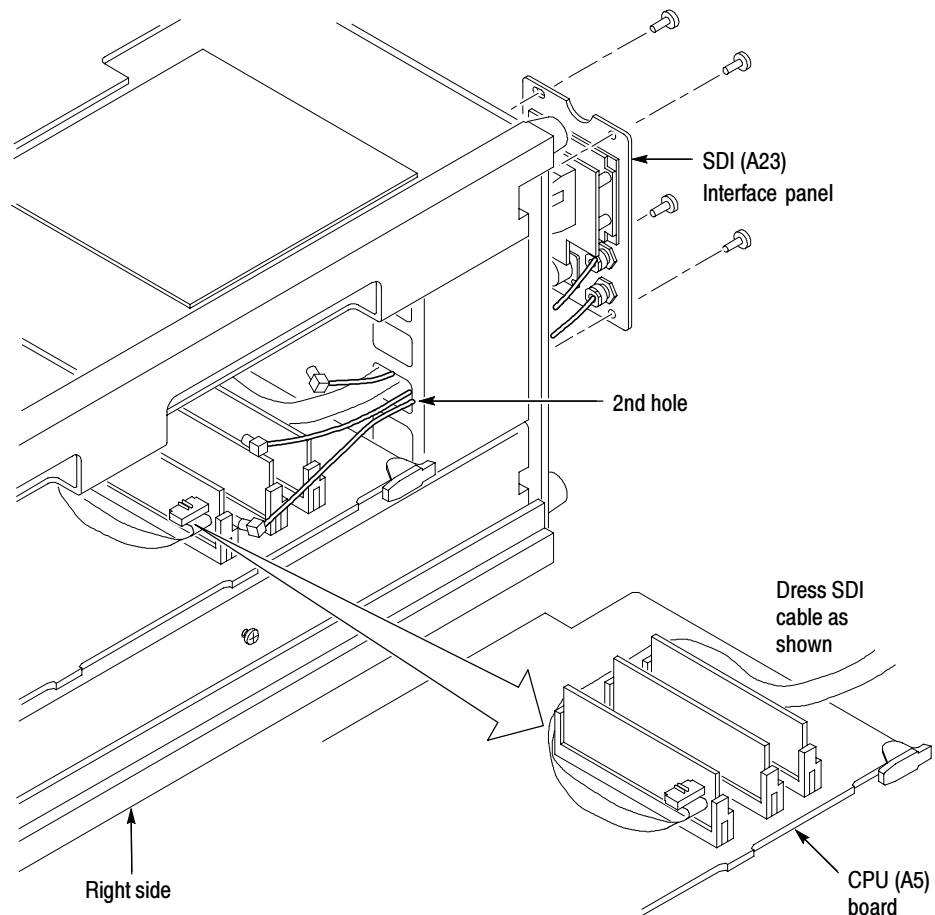

Figure 3: SDI panel and cable positioning
3. Position the SDI (A23) Interface Panel at the rear of the measurement set. Slide all four cables through the second hole from the bottom on the rear panel as shown in Figure 3.
5. Lay the SDI multicolored ribbon cable on the CPU (A5) circuit board as shown in Figure 3.